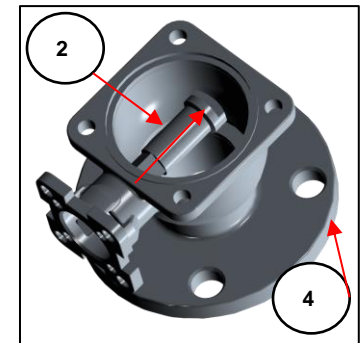

Figure 4-8
4.1.10 Carefully press the valve stem (item 2) into the body (item 4) cavity and remove it. (Figure 4-8)